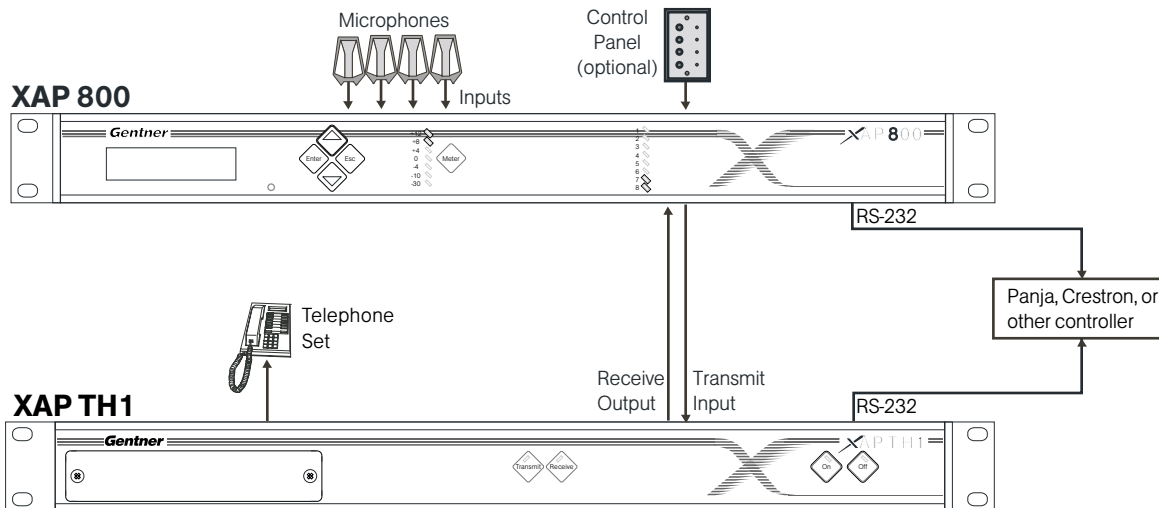

Figure 4. System diagram
The following block diagram (see Figure 4, below) shows the XAP TH1 when installation is complete in a XAP 800 system.
- **Receive Output** Audio from the Receive Output [5] (telephone participant audio) is passed to the XAP 800 for further routing and distribution. See Figure 4 on page 7.